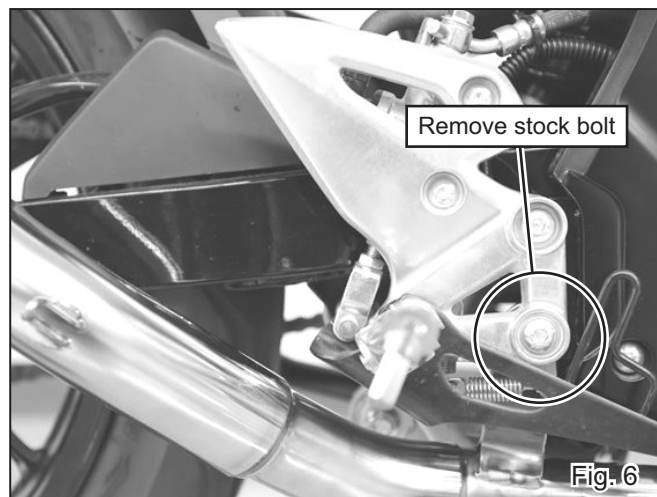

Fig. 6
- 6) Remove stock bolt on right hand foot peg bracket at the bottom one, and replace it with Button Bolt M8x35 to mount foot peg bracket and Exhaust Pipe bracket together. Fix Washer M8x26 and Flange Nut M8 to Button Bolt M8x35 (See Fig 6, 7 & 8). Tighten the nut by hand only at this stage.